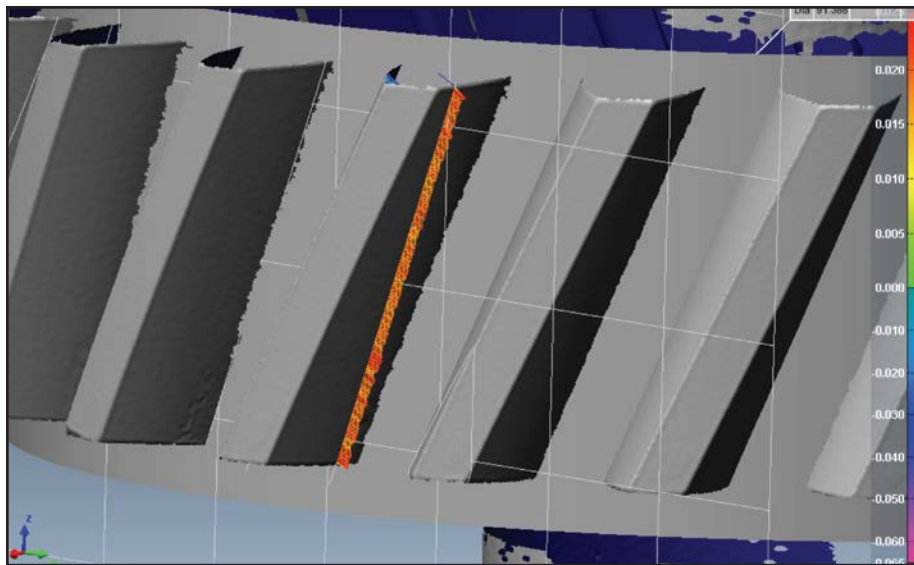

Figure 9 GMSL advantages – multiple sections from point cloud, including line of action.
- Figure 9 shows the ability to take multiple complex sections on a 3D point cloud generated by a non-contact sensor. GAMA can take these sections along the path of contact, and export them for transmission error analysis.